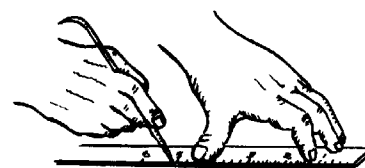

FIG. 2 SCRIBING A LINE
- Place the steel rule flat on the work in position for scribing. Grasp the scribe in the right hand as a pencil is gripped. (Fig.2).
- Hold the rule firmly by exerting pressure with the tips of the fingers of the left hand (Fig.2).